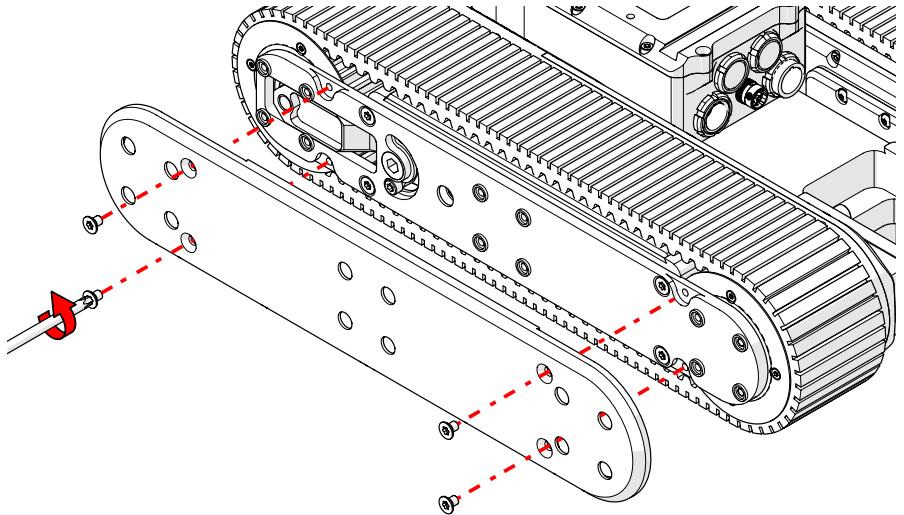

Fig. 56 - Remove outer cover of the track module
2. Using a T20 driver, detach the outer cover of the track module by removing the four screws (Fig. 56).